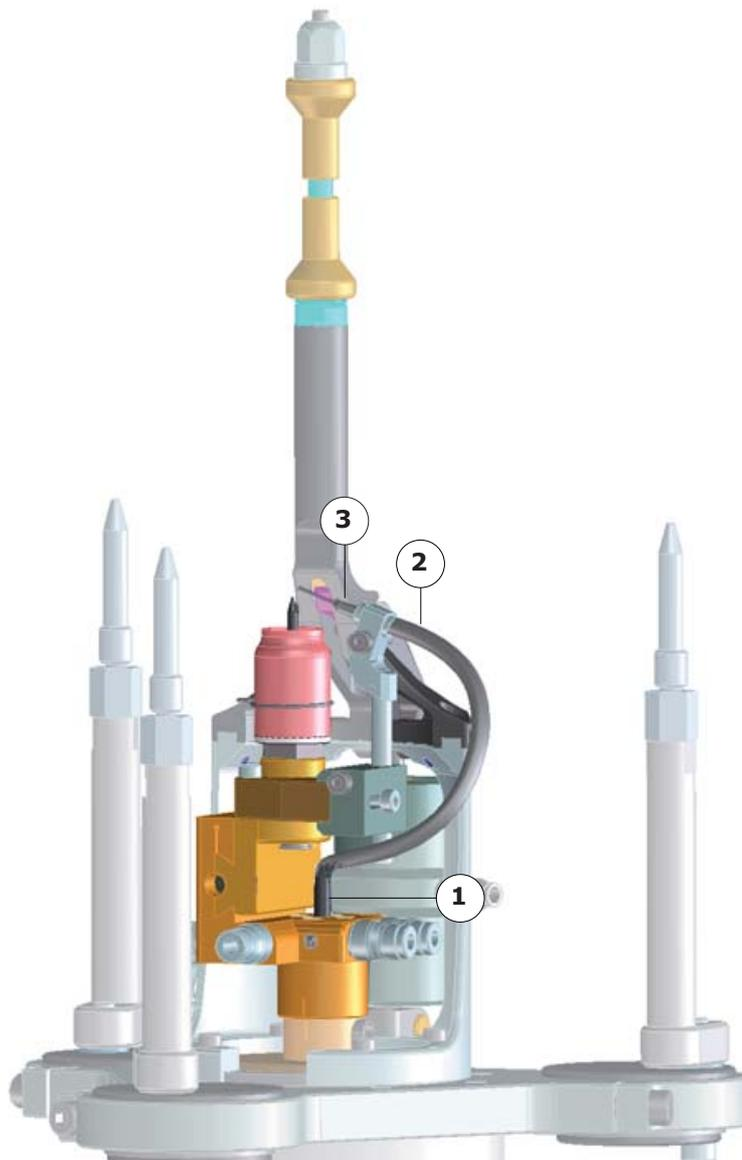

Fig.5.24 - Connecting the wire adjustment system
Screw the internal wire sheath (Fig.5.24 - 1) onto the tip of the wire adjustment sheath (Fig.5.24 - 2)
- Once the wire is in place in the wire adjustment mechanism, tighten the wire nozzle (Fig.5.24 - 3) to the tip of the sheath.